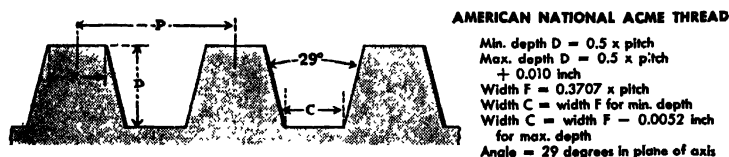

Fig. 17-5. American National Acme thread. (*The Shell Oil Company*)
*The American National Acme Thread* (Fig. 17-5). The American Acme thread is classified as a power-transmission type of thread. This is because the 29-deg. included angle at which its sides slope reduces the amount of friction when matching parts are under load. Further, because of the wide root and crest, this thread form is strong and capable of carrying heavy loads.